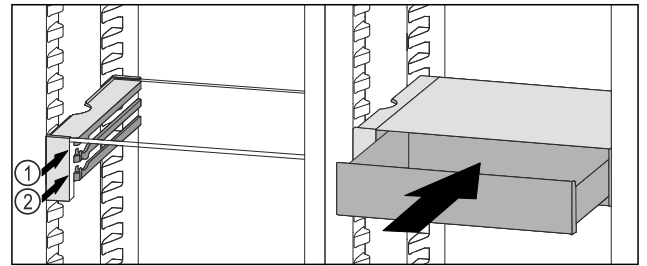

Fig. 70
- Place the VarioSafe drawer behind the stoppers on desired rib Fig. 70 (1) or Fig. 70 (2).